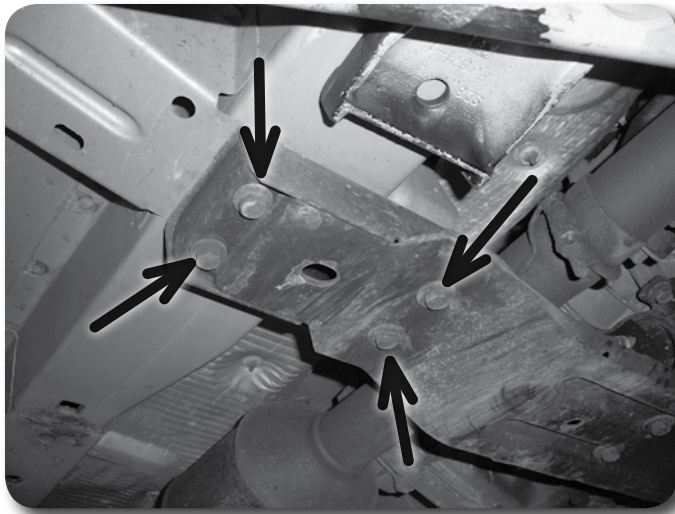

Figure 21
2. Locate and remove the 8 (4 per side) transmission crossmember mounting bolts. **Figure 21**